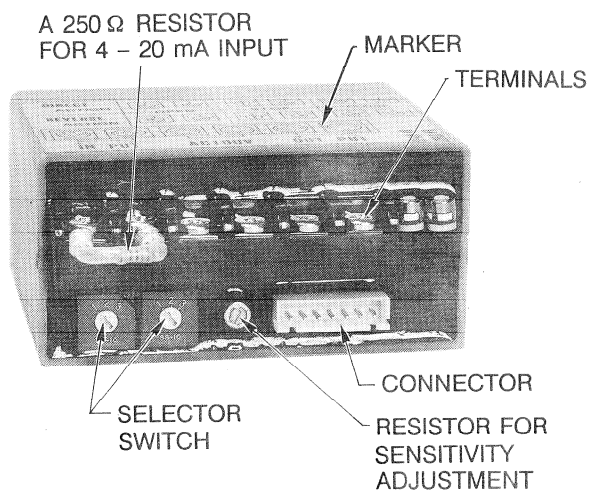
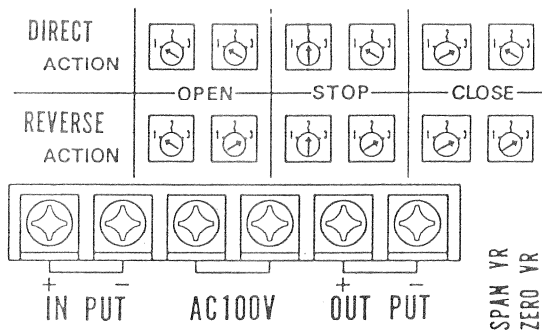

Fig. 6.3. Bottom of Control Unit
Fig. 6.4. Marker on the Control Unit Front
- (3) Fully push down the valve stem until the valve plug is seated on the valve seat.
- (4) Set the ZERO ADJ potentiometer to an approximate center position of its full adjustment range, from the terminal block section of the actuator.
- (5) Apply to the actuator a control signal corresponding to the fully closed position (20 mADC for the direct action type or 4 mADC for the reverse action type).
- (6) Connect the actuator stem to the valve stem with the stem connector. For this connection, let the threads of the stems engaged and securely tighten the connector with the hex bolt.
- (7) Align the zero position of the scale plate installed on the yoke to the pointer installed on the stem connector. To do this, slide the scale plate by loosening its fixing-screw.
- (8) Apply to the actuator a control signal corresponding to the full open position (4 mADC for the direct action type or 20 mADC for the reverse action type).
- (9) Check that the pointer indicates the full span position of the scale. Adjust the pointer to this position with the SPAN ADJ potentiometer of the controller, from the terminal block section.
- (10) Repeat the procedures of (5), (8) and (9) until both zero and span requirements are met at the same time.
- (11) By applying a control signal of 20.1 – 20.4 mADC for the direct action type or 3.9 – 3.6 mADC for the reverse action type, check that the pilot lamp illuminates indicating that the valve plug is seated on the plug seat. If the lamp is left unlit, further adjust the signal in the closing direction. When the lamp is lit, readjust the zero and span. If the lamp is still left unlit even by varying the signal, remove the stem connector and then start readjustment from Item 2.
- (12) After the above adjustment and check are over, cut off the input signal and check that the control valve is driven into the fail-safe action mode as described in Section 6.2. (Refer to Section 2.3 (1).)
- (13) If hunting occurs due to unstable process condition, or if the control signal varies significantly, adjust the sensitivity for the purpose of damping (See Fig. 6.3.). The adjustment differs depending upon the situation although usually not required.
- (14) The sensitivity is factory-set to 0.5%. Lower the sensitivity when controller's output varies remarkably.
The safer direction may be toward the fully closed position (CLOSE mode), full-open position (OPEN mode), or to stop in the currently existing position (STOP mode). Any one of these mode is selectable with the selector switches located at the bottom of the control unit. The location of the selector switches is shown in Fig. 6.3. The relationship between switch setting and fail-safe mode is as shown in Fig. 6.4 and Table 6.1.